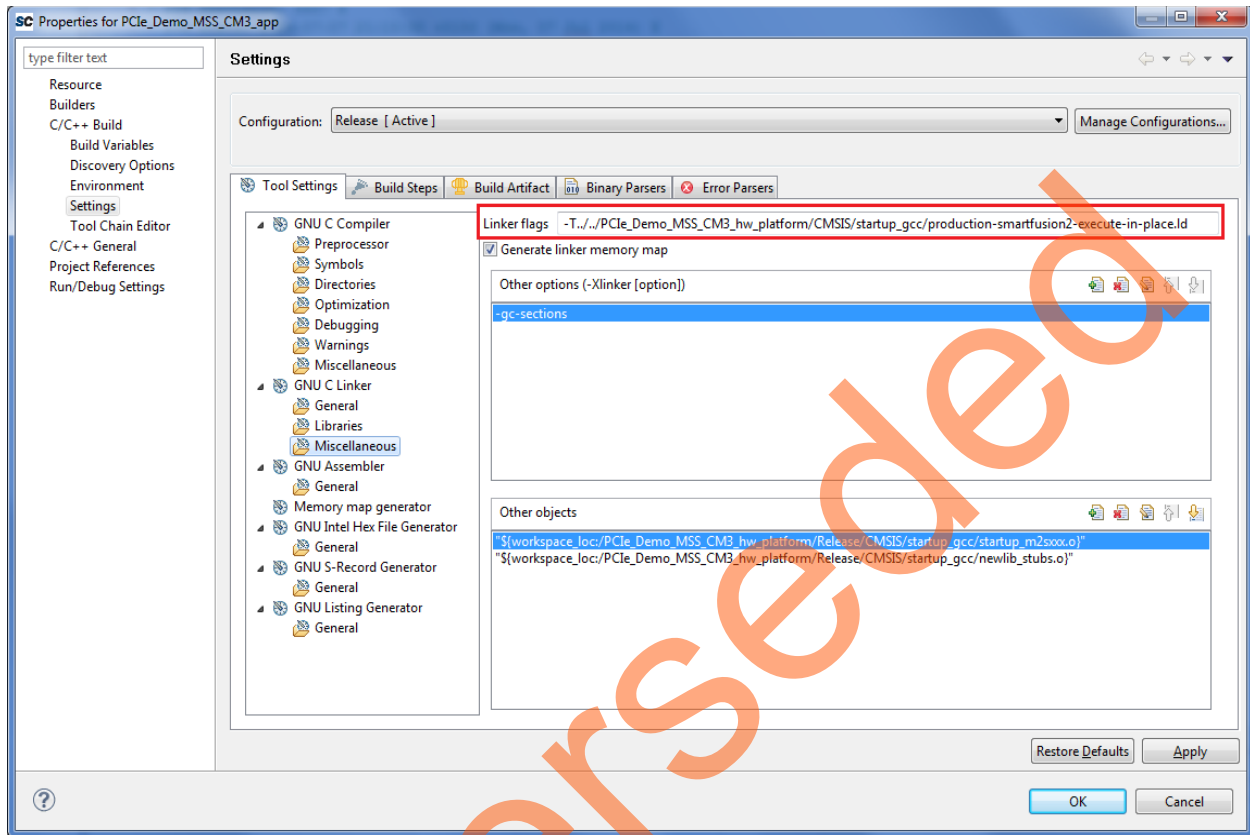

Figure 37 • LD File Option
8. Select **Miscellaneous** and provide the release mode linker script file to the linker by changing the 'Linker flags' field to `“-T../PCle_Demo_MSS_CM3_hw_platform/CMSIS/startup_gcc/production-smartfusion2-execute-in-place.ld”` as shown in Figure 37.